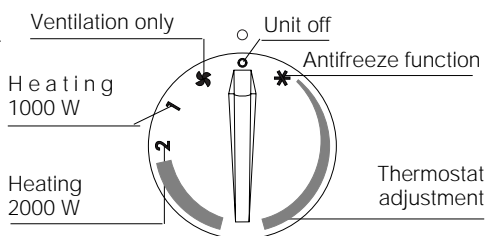

fig. 5
- On model fitted with electronic timer, slide the starter indicator (fig. 5) to position "I"; the indicator lamp will come on.
- Turn the knob clockwise to the **\*** position, "summer service" (ventilation only) (fig. 5).
To turn off the appliance, turn the function selector knob to the "O" position (fig. 5) and, for model with a timer, put the starter indicator in the "O" position (fig. 5). The operating pilot light goes off.
- Press the **⊖** pushbutton and **h+** pushbutton (fig. 5) simultaneously until the display shows the hours for the correct time, then release both pushbuttons.
- Press the **⊖** pushbutton and **min+** pushbutton (fig. 5) simultaneously until the display shows the minutes for the correct time, then release both pushbuttons.
1. Move the sliding indicator to "AUTO" (fig. 5).
To start the fan heater at the programmed time you now need to simply set the function selector and thermostat (fig. 5) to the settings desired, following the instructions in the section "HEATING AND SETTING THE THERMOSTAT".